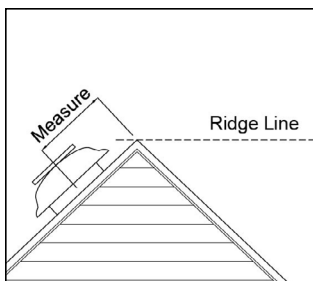

Figure 1
2. **Measure...** from peak of roof to midpoint of power vent. See Figure 1.